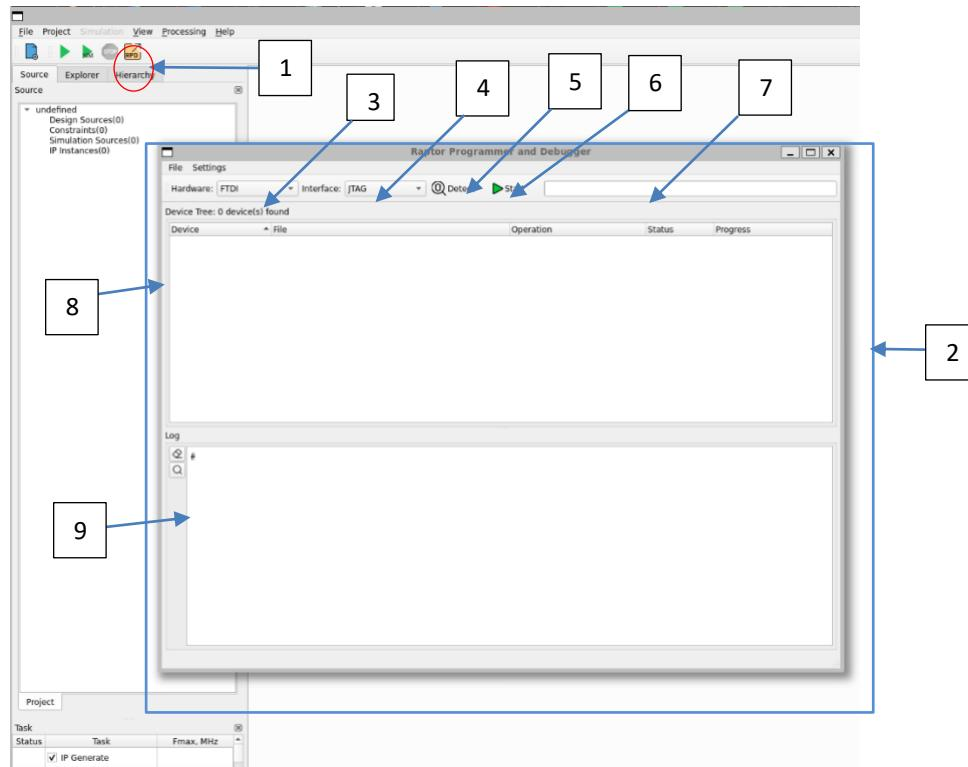

Figure 63. Raptor Programmer and Debugger GUI
- a. Right click on the FPGA device row in the Device Tree. A context menu will pop up showing in Figure 63. Here, there are three things to take note